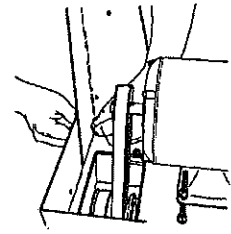

Fig.A-4
7. Working on the headstock end of the Power Station, hold a leg (5) in place while inserting a screw (2) through the corner top hole, fastening it with a star washer (4) and a nut (3). See Fig.A-4. Finger tighten. Repeat this for the two side holes. Don't insert a screw in the end inside hole yet.